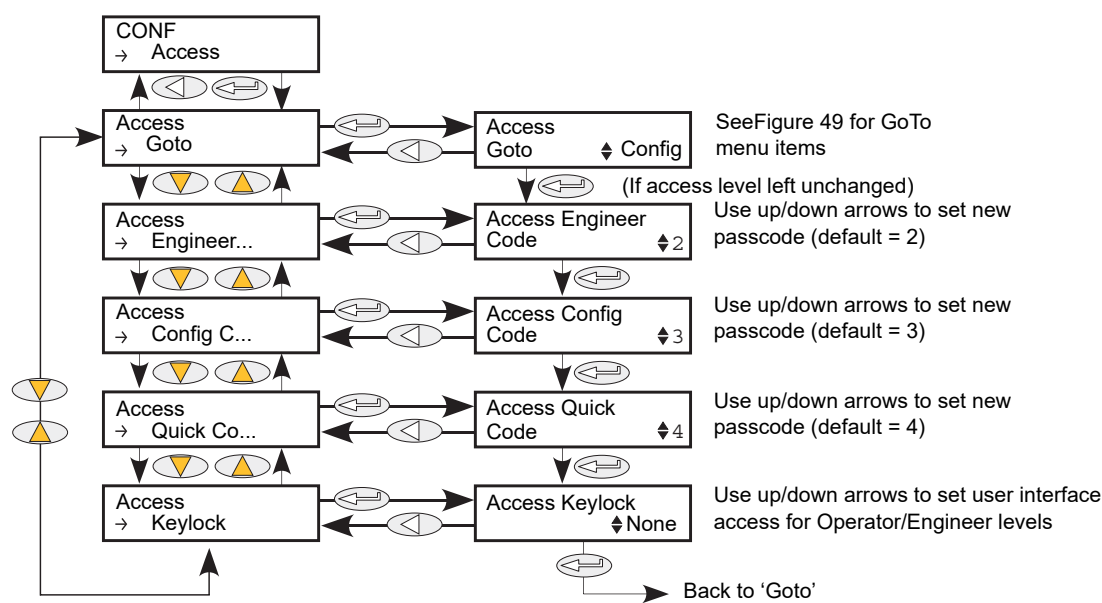

Figure 50 Access Configuration
2. The user to edit the current Pass codes for Engineer, Configuration and Quickstart menus (Figure 50).
3. Access to the Operator Interface push-buttons to be restricted in Operator and Engineer Level menus (Figure 50).